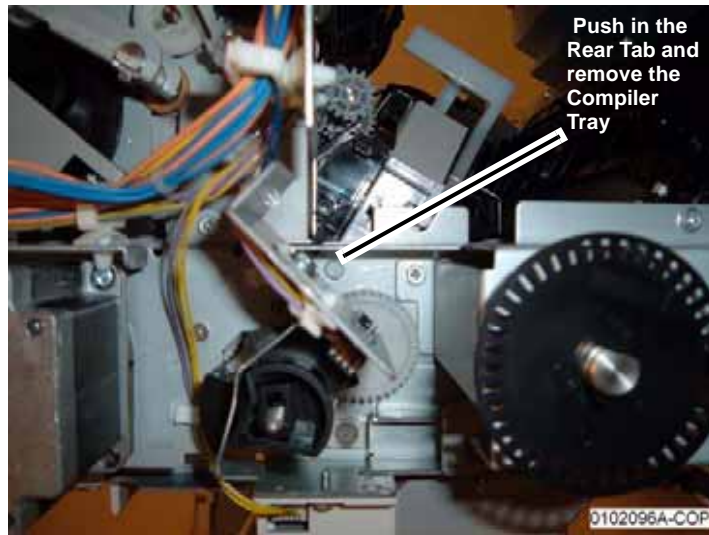

Figure 4 Pushing in the Rear Tab
- b. Push in the Rear Tab (Figure 4).